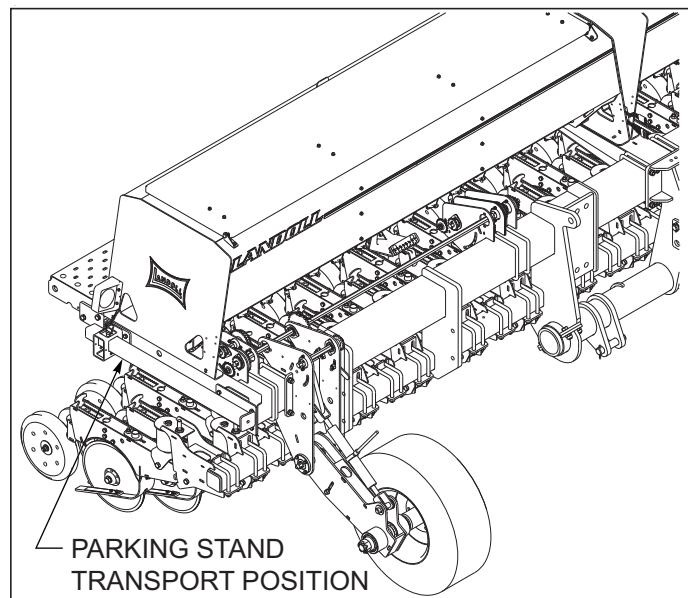
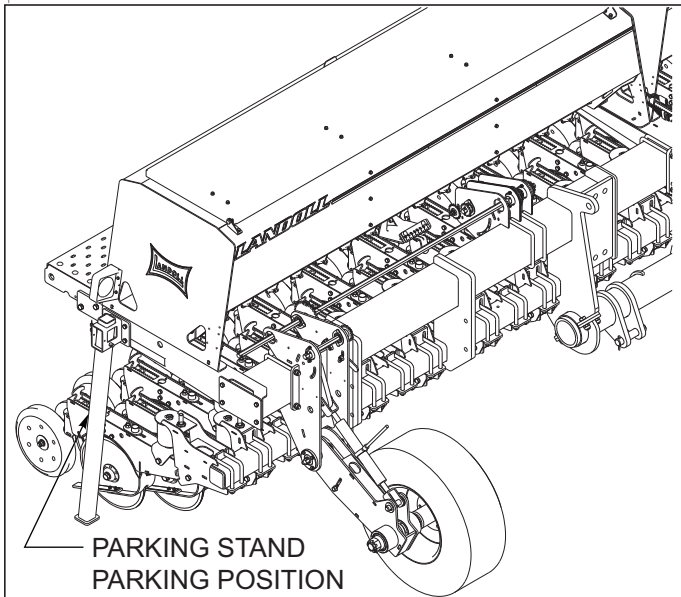

Figure 5-3: Parking Stand Transport Position
Figure 5-4: Parking Stand Parking Position
- c. Remove the parking stands from transport position ***See Figure 5-3*** and install the parking stands in Storage position ***See Figure 5-4.*** If storing on soft ground, place board/plate under the stands for a wider footprint.